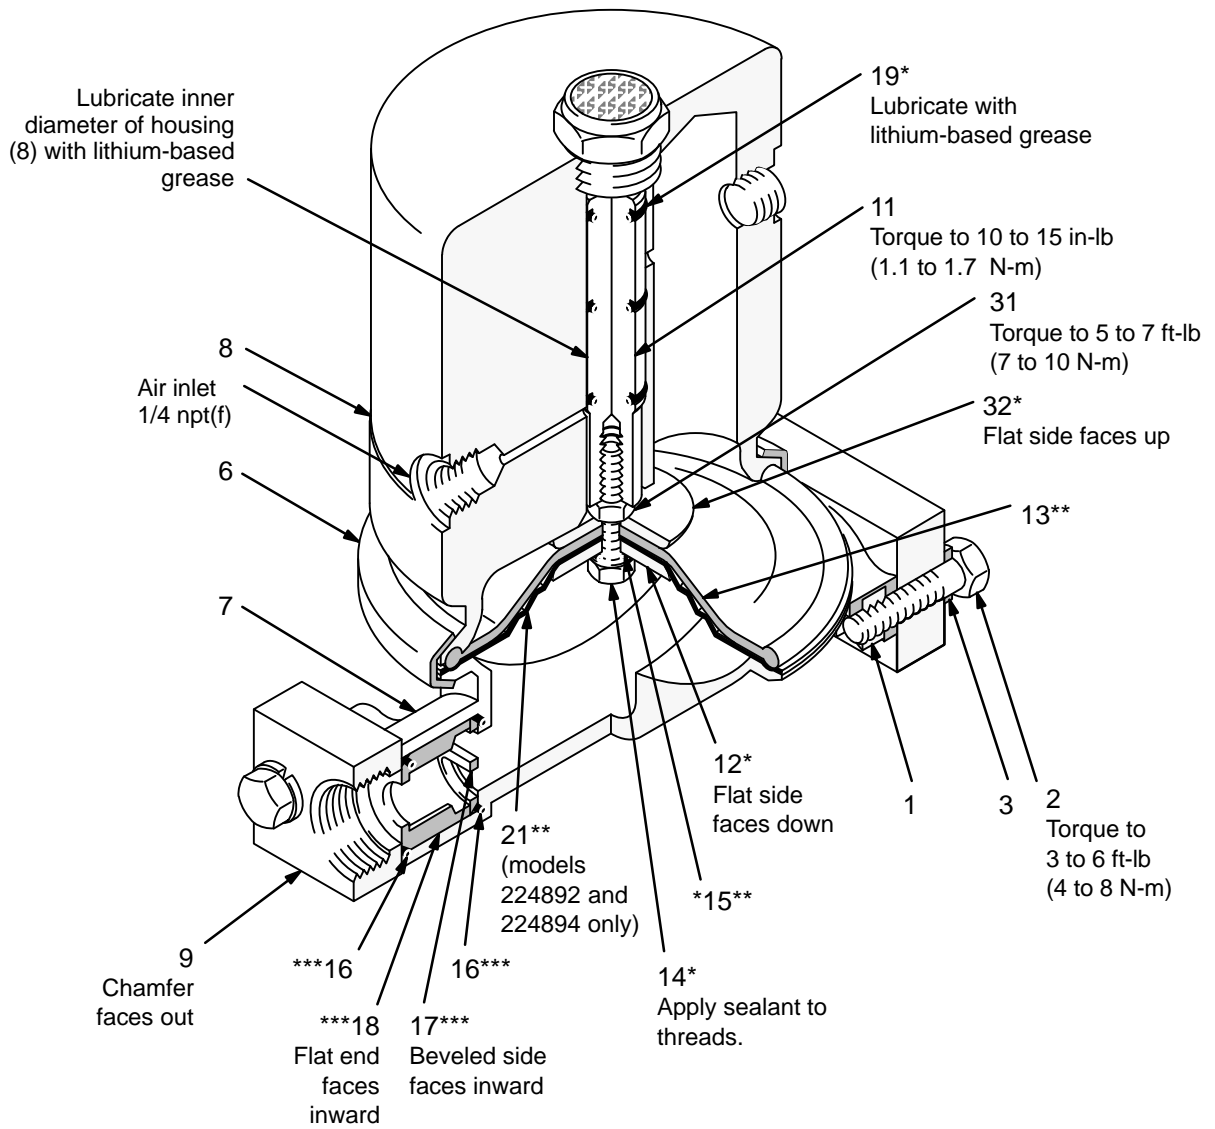

Fig. 2
3. Remove the v-clamp (6). See the **Parts Drawing** on page 12.
4. Separate the housing (8) from the cover (7) to expose the diaphragm and shaft assembly. Pull the diaphragm and shaft out of the housing. See Fig. 2.
5. Remove the three o-rings (19) from the shaft (11).
7. Lubricate the inner diameter of the housing (8) with lithium-based grease. Slide the shaft and diaphragm assembly into the housing (8). Place the cover (7) on the housing (8).
8. Position the clamp (6) around the housing (8) and cover (7). Apply thread lubricant to the threads of the v-clamp, secure with the nuts, and torque to 6 to 10 ft-lb (1.4 to 13.6 N.m). See the **Parts Drawing** on page 12.
5. Hold the bolt (14) steady with a wrench. Wrap a rag around the shaft (11) to protect it, then unscrew the shaft from the bolt using locking pliers. Remove the nut (31), upper diaphragm plate (32*), diaphragm (13), PTFE diaphragm plate (32*), diaphragm (13), PTFE diaphragm plate (12), and o-ring (15) from the bolt. Clean and inspect all parts for wear or damage.
3. Remove the bolts (2), lockwashers (3), and nuts (1) holding one manifold (9) to the cover (7). Repeat for the other side. See Fig. 2.
4. Pull the two o-rings (16), guide (18) and stop (17) out of the cover (7). Repeat for the other side. Clean and inspect all parts for wear or damage.
5. Push one o-ring (16***) all the way into the cavity of the cover (7). Install the stop (17***) with the beveled side facing inward. Install the guide (18**) with the flat end facing inward, then install the second o-ring (16***) around the outer edge of the guide. Repeat for the other side.
6. Install the manifold (9) on the cover (7) with the chamfer facing outward. Secure with the bolts (2), lockwashers (3), and nuts (1). Torque to 3 to 6 ft-lb (4 to 8 N.m). Repeat for the other side.